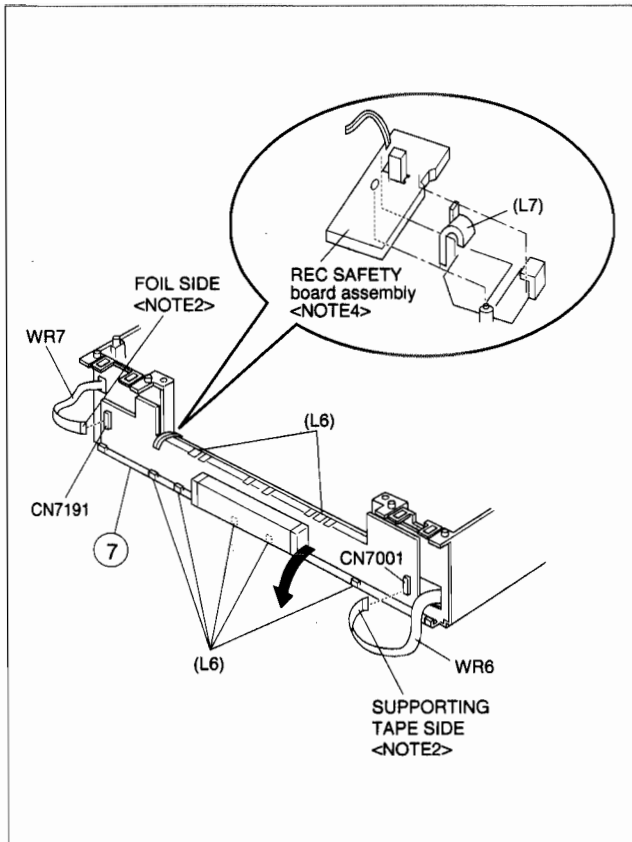

Fig. D7
- (7) Remove the Switch/Display board assembly and REC safety board assembly. (Refer to page 1-4 of 1.3 DISASSEMBLY/ASSEMBLY METHOD. Take care not to pull the flat wires (Fig. D7) from CN7001 and CN7191.)